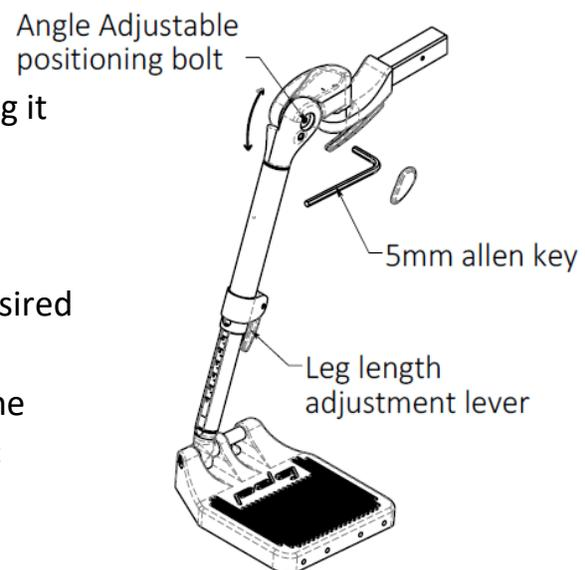

Figure 15.19: Easy-Out Angle Adjustable Front Rigging
- Release the footrest extension adjustment lever. This is shown in Figure 15.19.